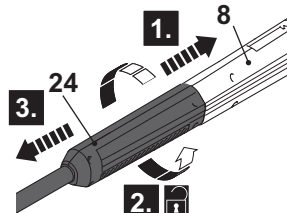

Fig. 8
- > Press the extension lance (24) towards the spray gun (8) and turn it anti-clockwise to remove it (Fig. 8).